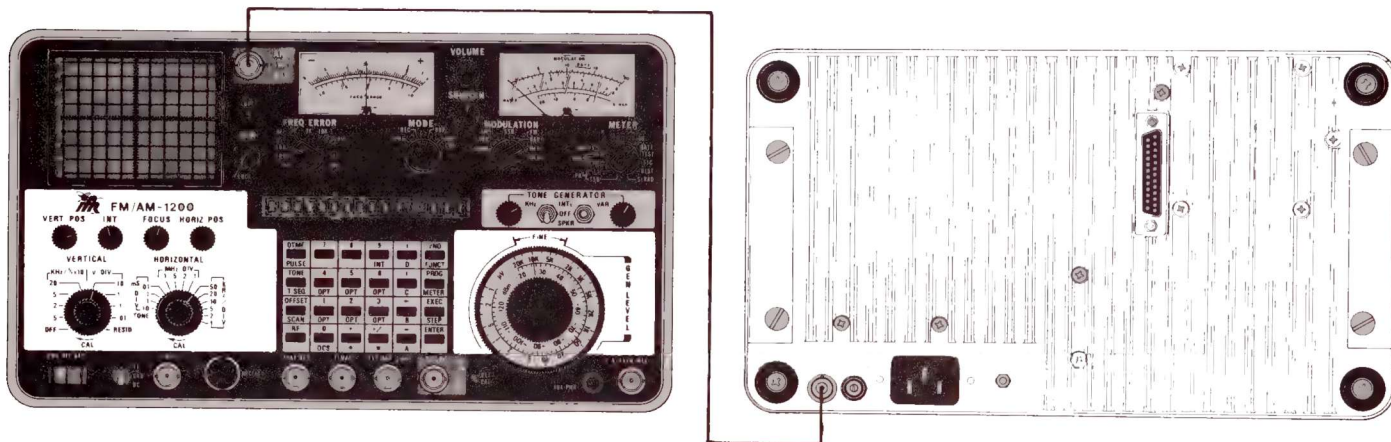

Figure 5-1 Performance Test Set-Up Diagram
2. Connect 2-foot length of 50Ω coaxial cable between ANT Connector (34) and External Reference Connector (45) as shown in Figure 5-1.
3. Place PWR/OFF/BATT Switch (22) to either "PWR" or "BATT" position and observe the following indications: